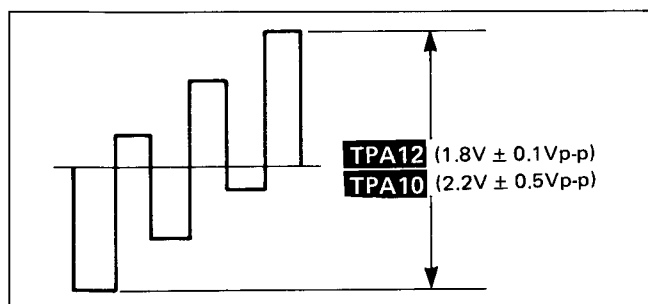

Fig. 30
- 3) Connect an oscilloscope between **TPA12** and chassis GND. When adjust Sub colour VR (R629) to achieve  $1.8V \pm 0.1V_{p-p}$  on the oscilloscope as shown in Fig. 30
- 4) Connect an oscilloscope between **TPA10** and chassis GND. When confirm that the waveform level is  $2.2V \pm 0.5V_{p-p}$  on the oscilloscope as shown in Fig. 30.